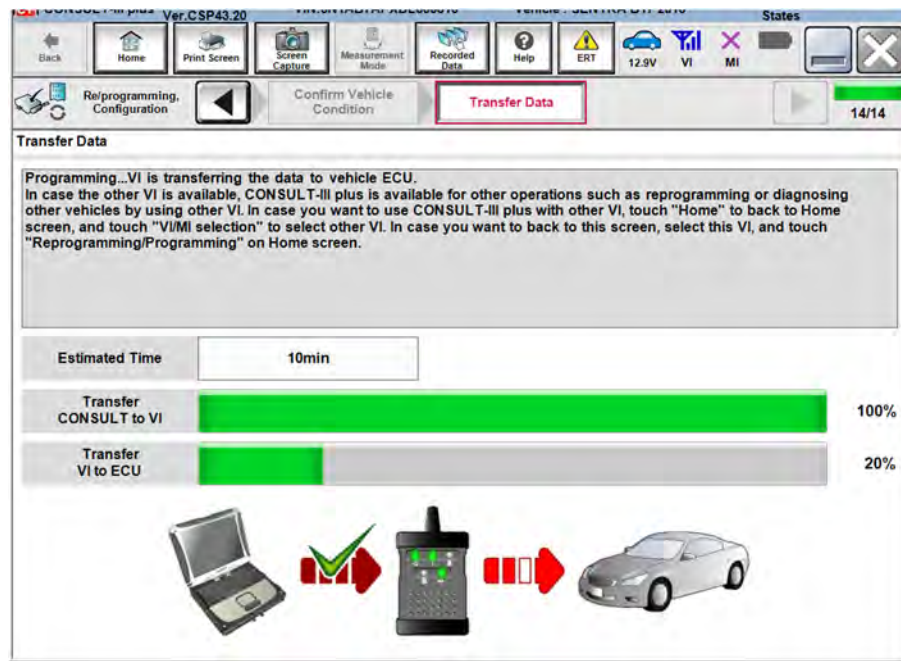

Figure 17
- Once authentication completes, TCM reprogramming will automatically begin and the screen in Figure 17 on the next page will be displayed.